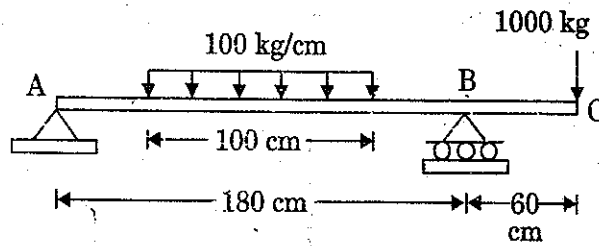

Figure 1
4. ✓(a) Draw the shear force and bending moment diagram and label the values of the largest positive and negative shearing forces and bending moments for the beams with overhang as shown in Figure 1. 30